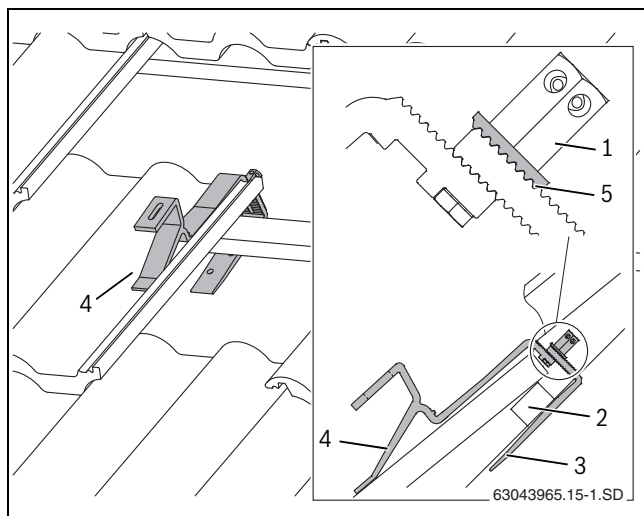

Fig. 12 Fixed roof hook (for an improved view, some tiles have not been shown)
- Fit the roof hook so that the load rests in the front in a tile hollow (Fig. 12, [4]).
- Slide the front part of the roof hook (Fig. 12, [3]) until it rests in the batten (Fig. 12, [2]).
- Tighten the long hexagon nut (Fig. 12, [1]). For this purpose, insert the size 5 spanner into the hole of the hexagon nut and turn.
The serrated washer (Fig. 12, [5]) must fit into the lower part of the roof hook.